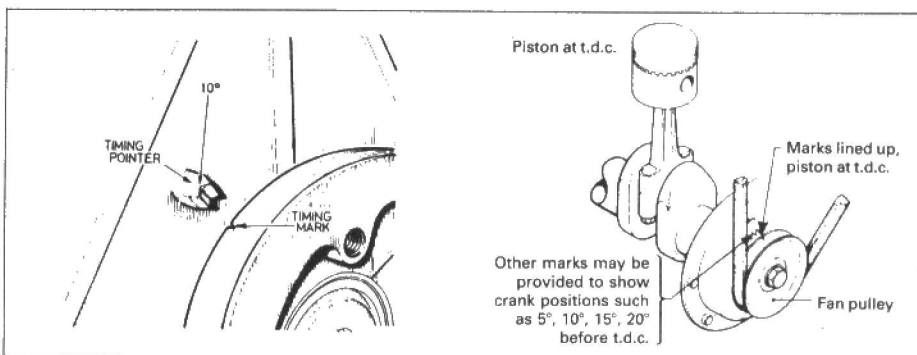

Figure 3.6. Timing marks on fan belt pulley
2. Locate the timing marks on the fan belt pulley (see Figure 3.6)